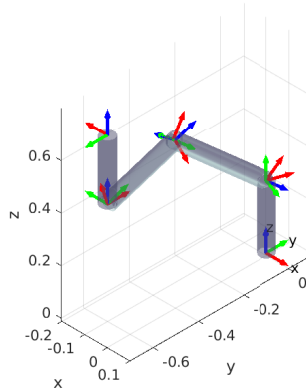

Figure 1: Desired final end-effector position/orientation for the first exercise
- the final orientation matches the one shown in Fig. 1